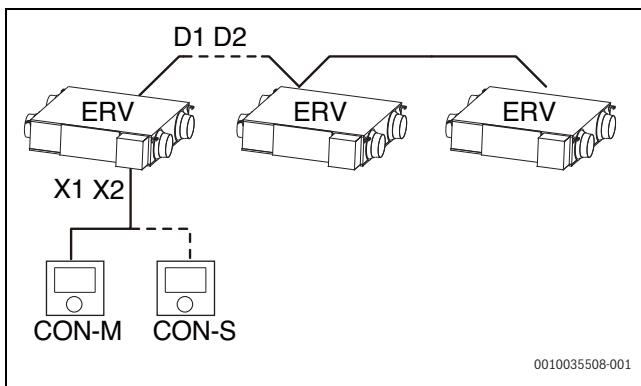

Fig. 17 Multiple ERV units
- Group of up to 16 ERV only controlled by one or two (master/slave) controller (→ fig. 17).